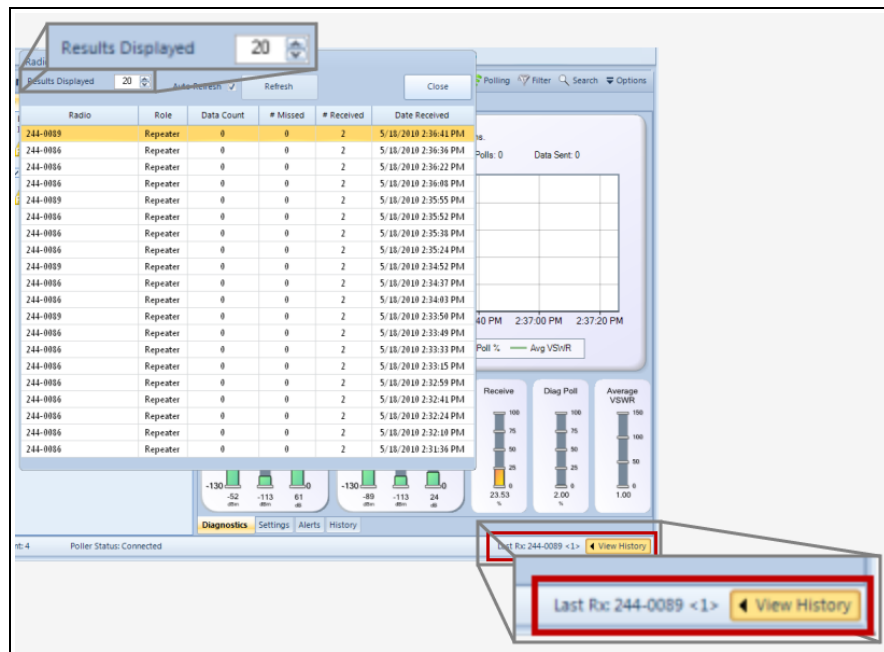

Figure 47: Example: View History
4. Click **View History** at the bottom of the **Network Diagnostics** window. Figure 47